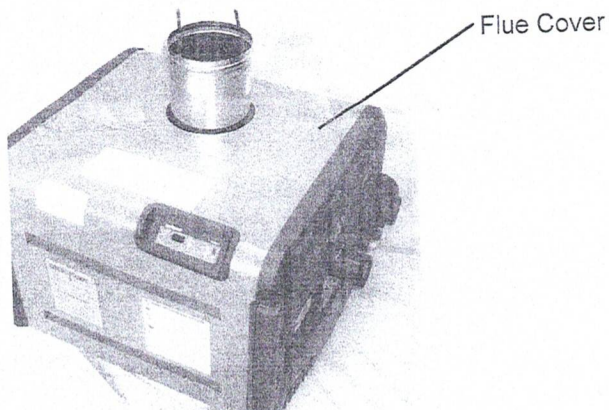

FIGURE 6
7. Install the new flue cover included with this kit over the vent pipe adapter and secure with the countersunk screws from step 3 above. See Figure 6.